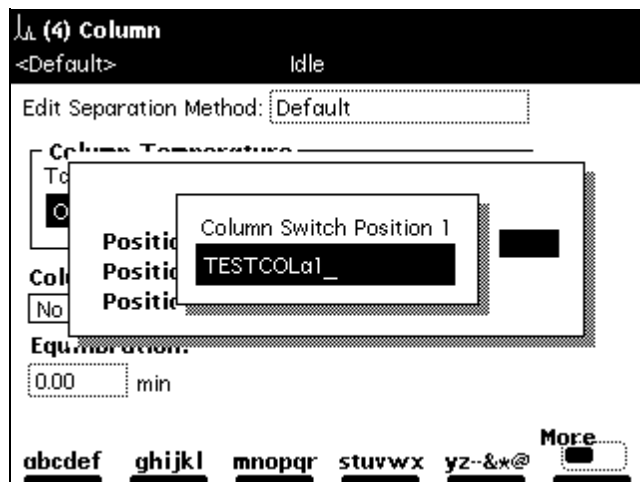

Figure 5-15 Column Selection Position 1 Dialog Box (Example)
2. Select a column position to modify, then press the **Modify** screen key. A dialog box that allows you to change the information for the selected column position appears (Figure 5-15).